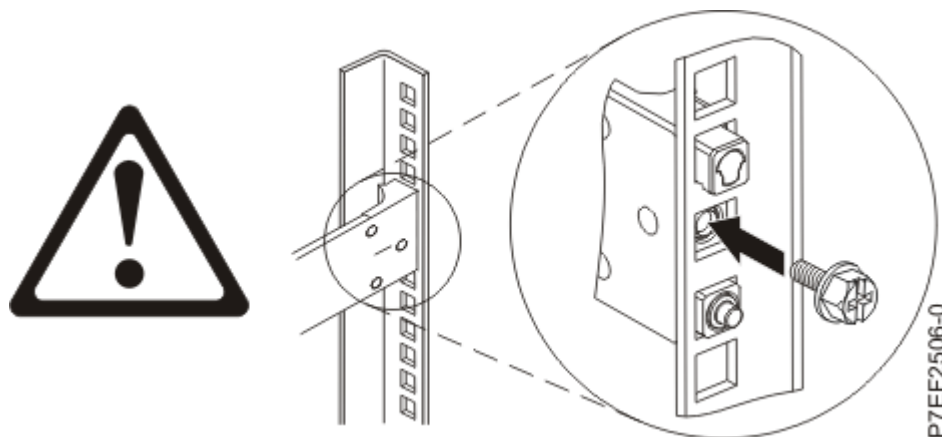

Figure 4: Reinstalling the screw
4. Reinstall the screw that was removed in step “2” on page 4, as shown in Figure 4 on page 5.